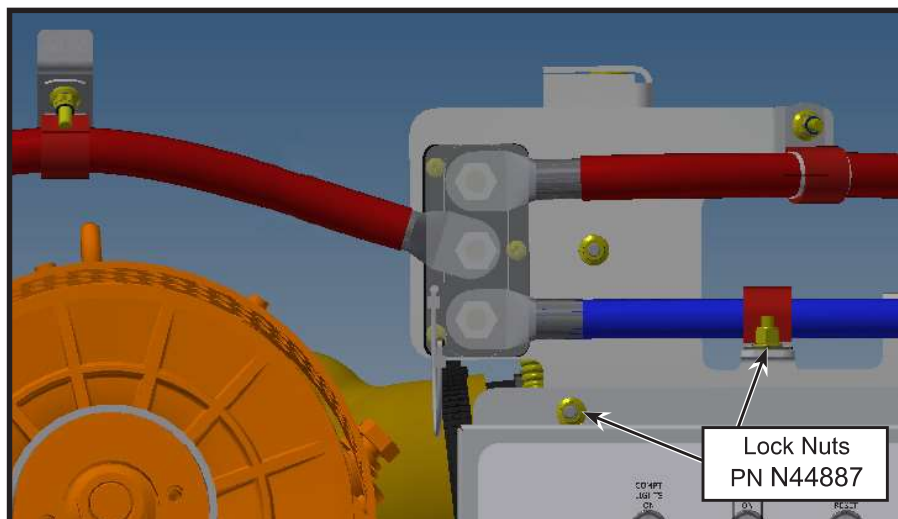

Figure 13 - View of Power Cables and Junction Bus Bar
- 1.28. Remove and discard the p-clamp lock nut holding the lower power cable (see figure 13).
- 1.31. Install lock nuts PN N44887 on the engine box and p-clamp studs and torque to  $14.5 \pm 1$  Nm (see figure 13).